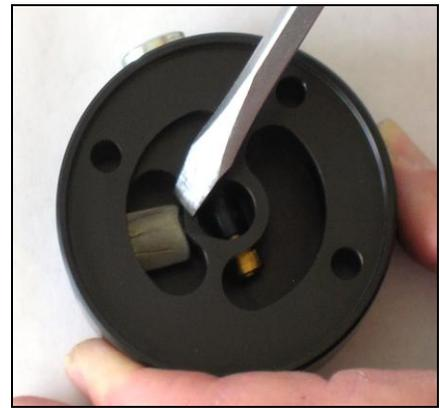

Figure 3
5. Remove the screen filter from the "IN" side of the pump by pushing it out with a flat tip screwdriver (**Figure 3**).